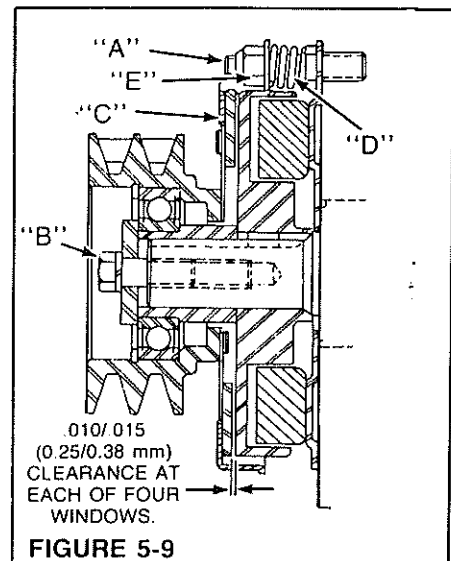

FIGURE 5-9
Remove four locknuts (A) Figure 5-9.
Remove sheave and armature/brake assembly (C). (See Figure 5-9)
Place compression springs (D) Figure 5-9 on brake mounting studs.